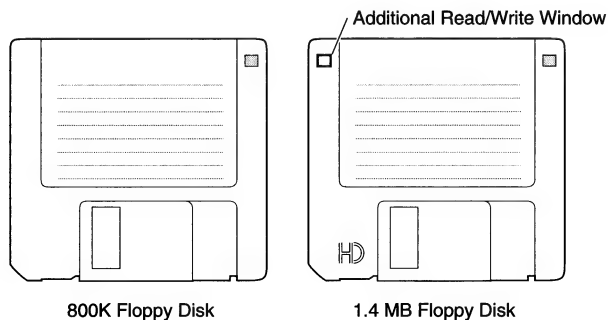

Figure 4 Identifying High-Density Disks
To take full advantage of the increased storage capacity of the SuperDrive, you must use high-density (HD) 3.5-inch disks. You can identify these disks by the **HD** next to the shutter and by the additional read/write window (Figure 4). Because high-density disks are structurally different from other media, media/drive compatibility problems can occur. To avoid such problems, refer to the table below.